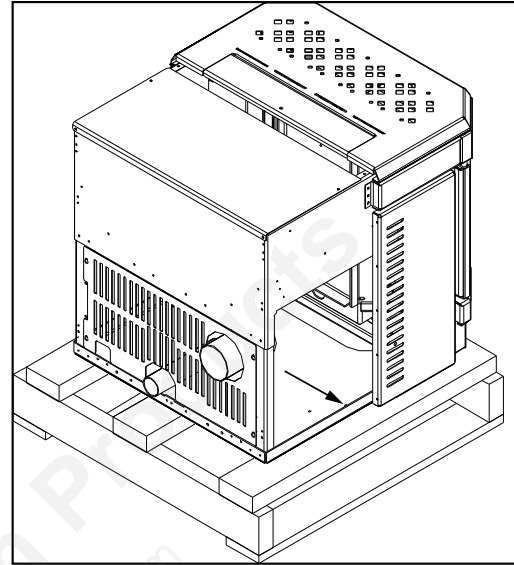

Figure 11: Screws to take out to remove insert unit from pallet.
INSERT: To remove your new insert stove from its pallet, remove the two (2) wood screws just inside the unit (see Figure 11). Remove the unit from the pallet and install the pedestal (refer to "INSTALLATION OF PEDESTAL - INSERT")